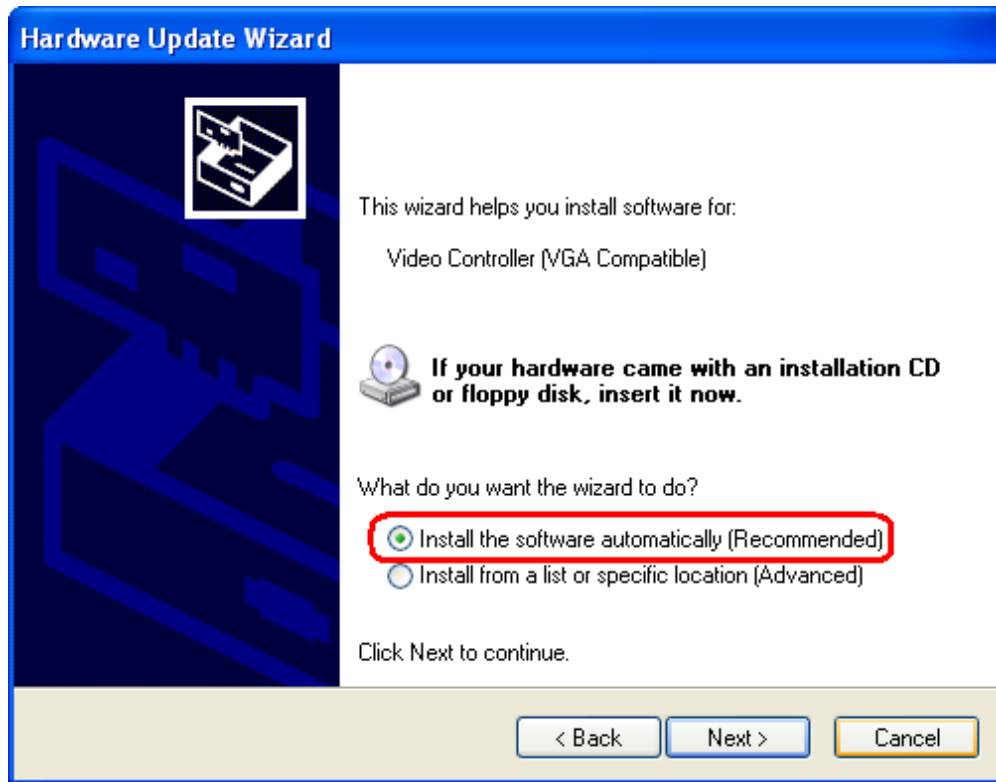

Figure 7-10: VGA Driver Installation Start
Step 8: The screen in **Figure 7-10** appears.
Step 9: Select the recommended option in **Figure 7-10**.